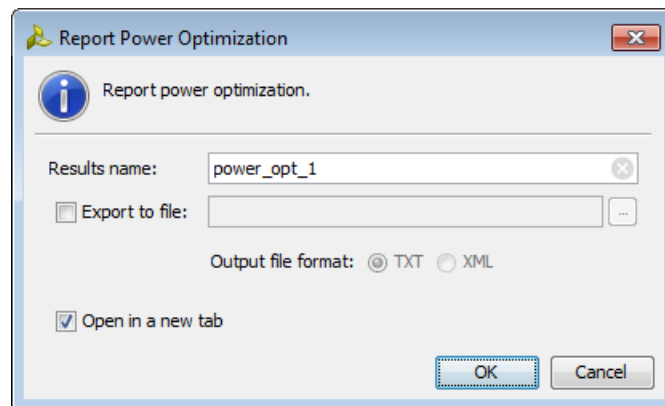

Figure 4-9: Report Power Optimization Dialog Box
3. In the Report Power Optimization dialog box (Figure 4-9), specify the following options.